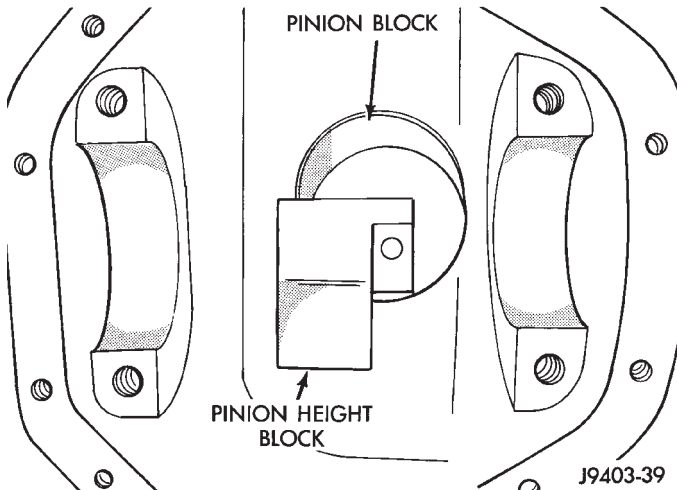

Fig. 78 Pinion Height Block—Typical
(2) Insert assembled height gauge components, rear bearing and screw into axle housing through pinion bearing cups (Fig. 78).